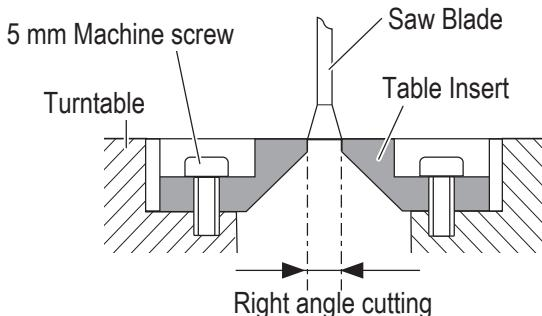

Fig. 11-a
## (2) Left and right bevel angle cutting (Fig. 11-b, Fig. 11-c)